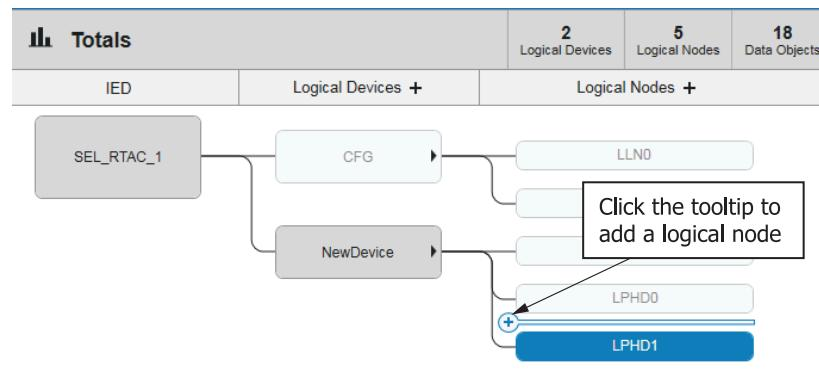

Figure 2.184 Add a New Logical Node
- Step 6. Create a new logical device by clicking **Logical Devices +**. Notice that all logical devices have two non-editable logical nodes. Click **Logical Nodes +** to create a new editable logical node. You can also hover your cursor in the window for selectable tooltips. See *Figure 2.184*.